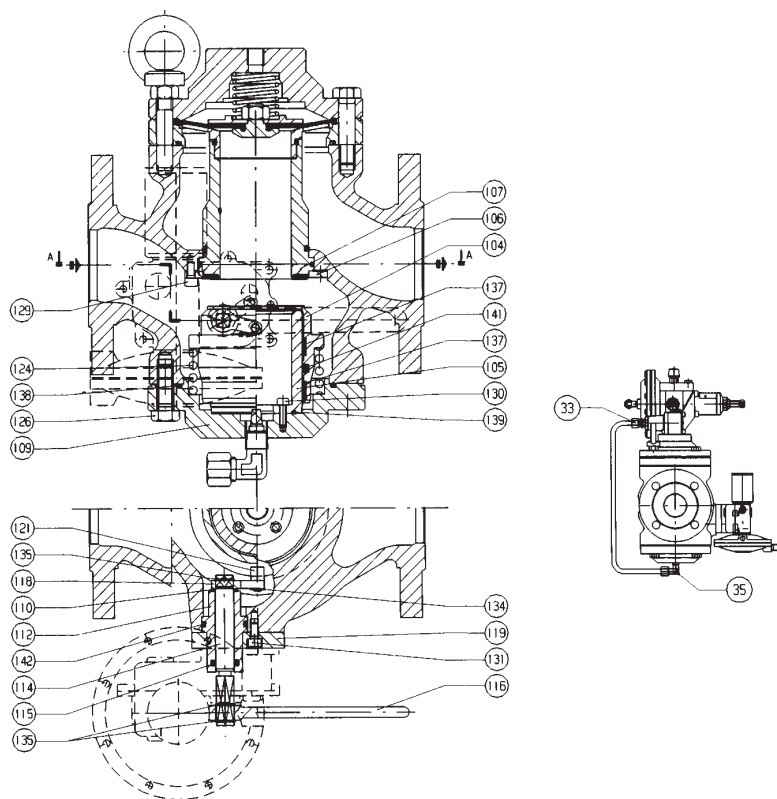

Fig. 26
6.3 TABELLA 16 BLOCCO REGOLATORE VB/93 (FIG. 26)
6.3 TABLE 16 REGULATOR VB/93 SLAM-SHUT (FIG. 26)
VALVOLA DI BLOCCO VB/93 (FIG. 26)
VB/93 SLAM-SHUT (FIG. 26)